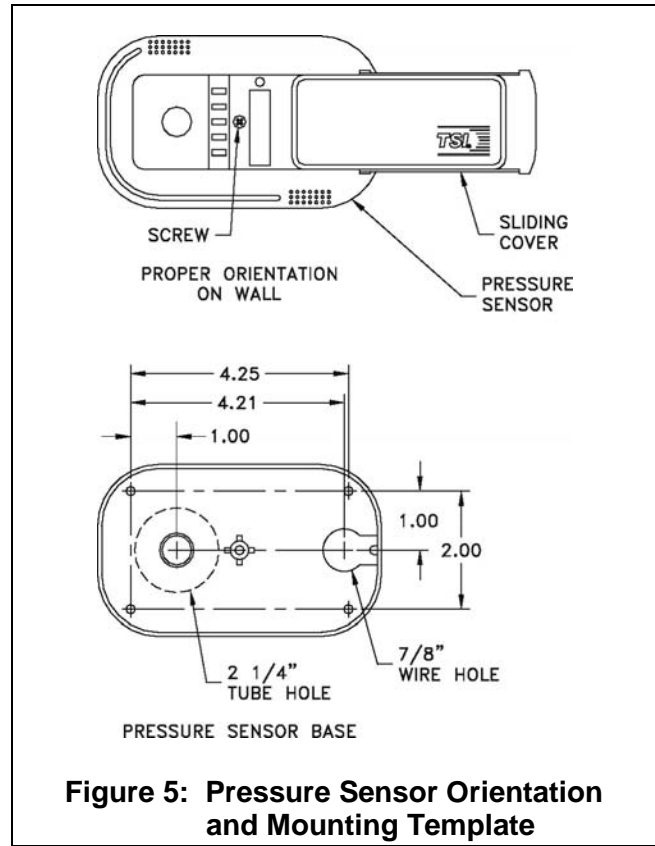

Figure 5: Pressure Sensor Orientation and Mounting Template
- 2) The pressure sensor must be orientated on the wall as shown in Figure 5. Looking at the mounted sensor, sensor hole is on the left (2 1/4") and wire hole is on the right.
- 4) Drill a 7/8-inch hole on the side of the wall that the pressure sensor will be mounted. This hole is for the six-conductor sensor cable. Refer to Figure 5 for a hole mounting pattern.
- 5) Slide sensor cover to right and remove screw that holds the sensor base to the pressure sensor (Figure 5). Remove pressure sensor and store in a safe place.